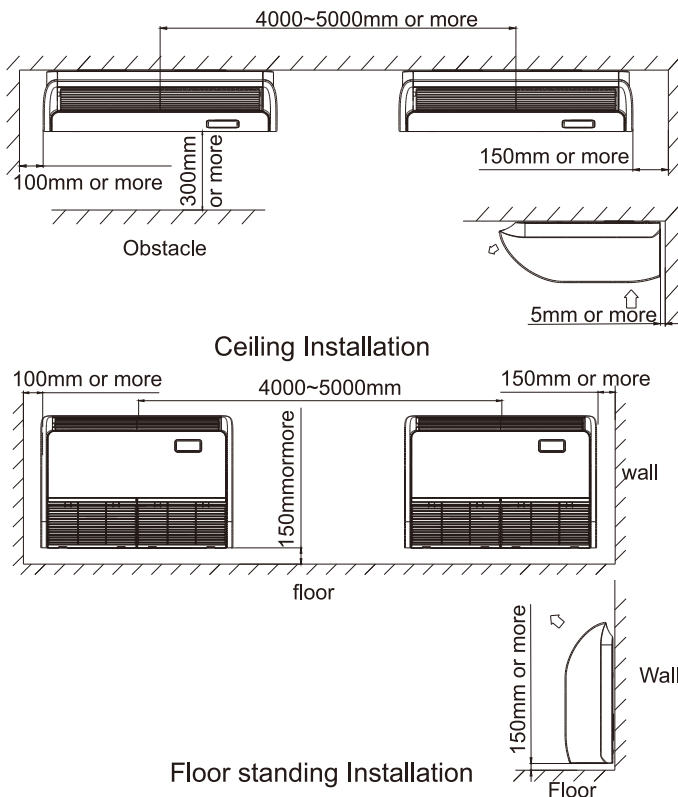

Fig. 3.2.1
- Sufficient clearance for maintenance and servicing is ensured. (See Fig.3.2.1)